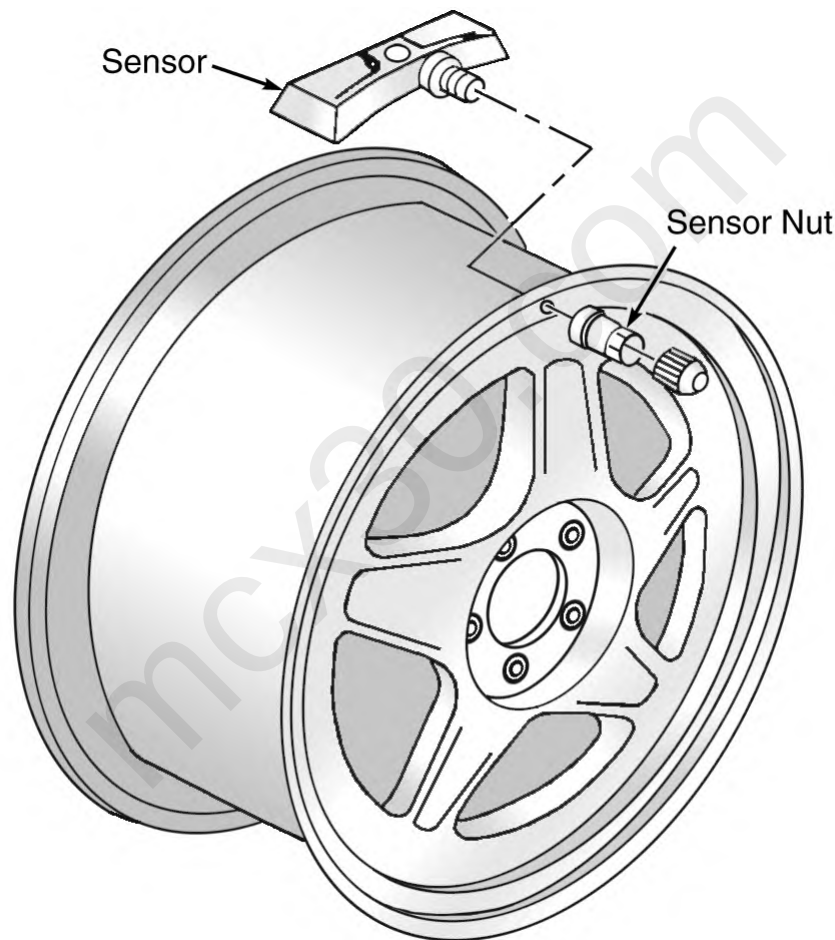
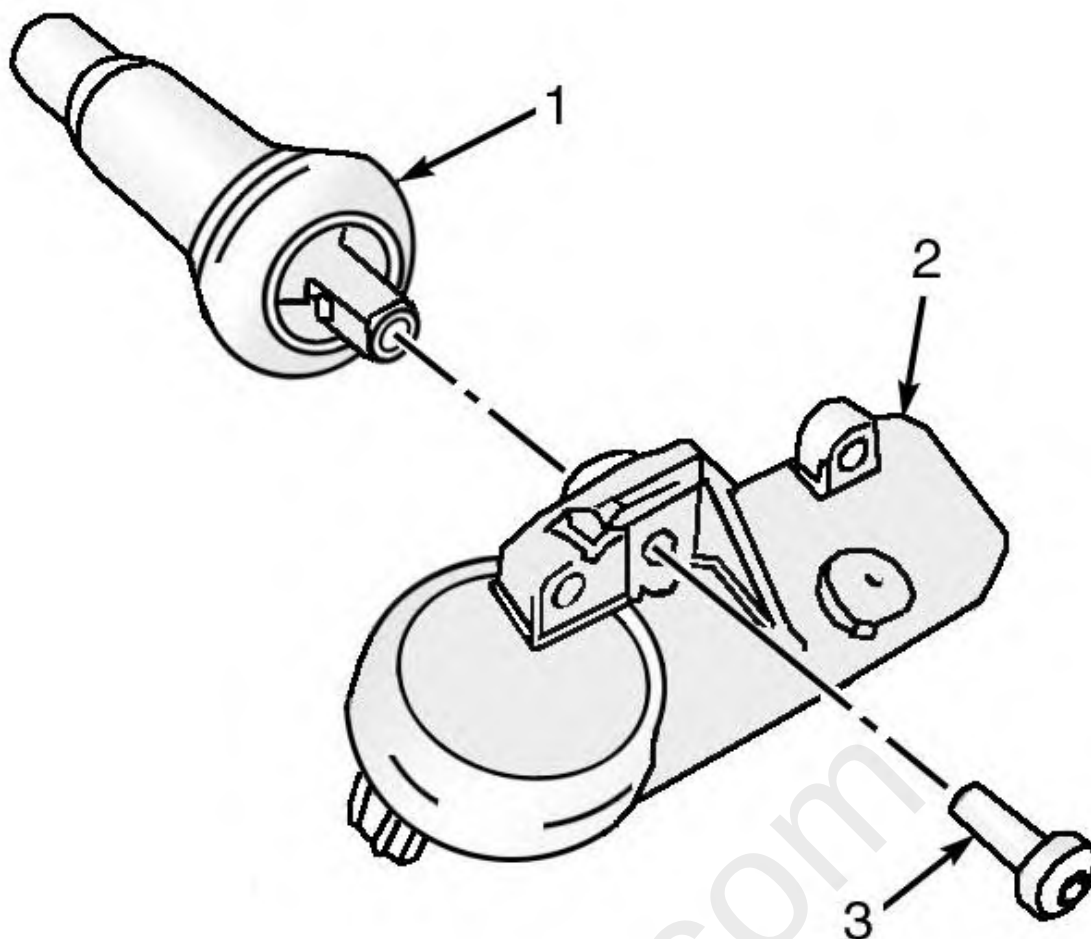

Fig. 1: Exploded View Of Clamp-In Style Tire Pressure Sensor
Fig. 2: Exploded View Of Snap-In Style Tire Pressure Sensor
There are currently two different kinds of Tire Pressure Monitor sensors in use on the vehicles covered in this article. Identification of which sensor is in use can easily be made after the tire has been removed from the wheel by referring to Fig.1 and Fig.2.
3. If the TPM sensor is the Clamp-in style (Fig. 1), follow Clamp-In style Removal as follows. If it is a Snap-in style (Fig. 2), follow the Snap-in Style Removal below.
1. Remove tire pressure sensor nut. See Fig. 1.
1. Remove the TORX screw (3) from the tire pressure sensor (2) and pull it straight off the tire pressure valve stem (1) (see Fig. 2).
1. Assemble the tire pressure sensor (2) to the valve stem and install the new TORX screw (3). See **Fig. 2**.